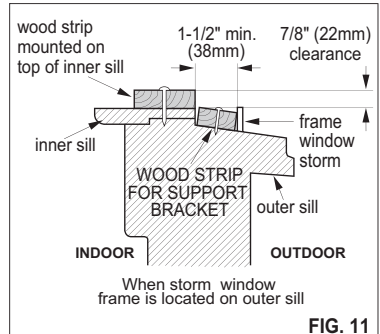

FIG. 11
- * If storm window presents interference, fasten a 2" (51mm) wide wood strip to the inner window sill across the full width of the sill. The wood strip should be thick enough to raise the height of the window sill so that unit can be installed without interference from the storm window frame. See FIG.11. Top of wood strip should be approximately 7/8" (22mm) higher than the storm window frame to help condensation to drain properly to the outside.
- * Install a second wood strip (approximately 6" (152mm) long by 1-1/2" (38mm) wide and same thickness as the first strip) in the center of the outer sill flush against the back of the inner sill. See FIG.11.